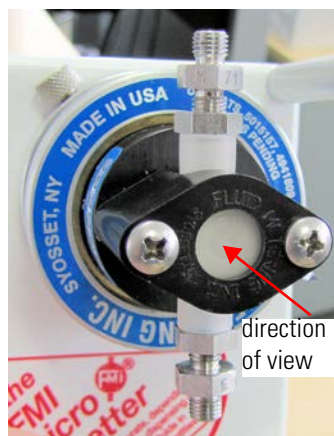

Figure 9-35. Turning acid pump to check movement of plunger
- b. Turn the acid pump so that you can look upon the bottom of the T-piece. See Figure 9-35.
To avoid wear, the moving plunger must not touch the bottom of the T-piece (“housing”) or even bump against it. See Figure 9-35.